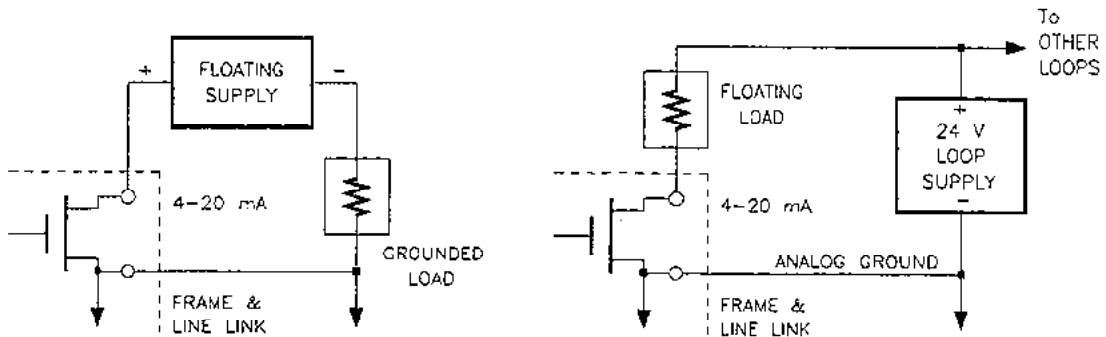

Figure 8B-5. Power Supply Configuration
When using the 4 to 20 mA output from the MAO-12, you must select the required type of power supply and determine its configuration. As mentioned above, you need an external supply. There are two ways to configure the process loop, grounded load with floating supply or floating load with grounded supply. The grounded supply/floating load configuration allows many loops to be powered from the same supply; but dictates that the load be 2-wire floating. The wiring scheme for both of these configurations is illustrated in Figure 8B-5.
2. Wire the + side of the floating supply to the + side of the sensing load, then wire the - side of the load to the I OUT terminal of the MAO-12 (see Figure 8B-5).